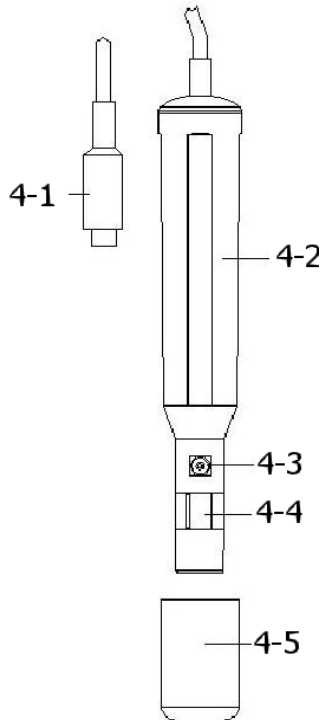

Fig. 2
- 1) Prepare the Oxygen Probe (standard probe, DOPB-11), install the " Probe Plug " (4-1, Fig. 2) into the " DO Socket " (3-13, Fig. 1).
- 1) Install the " Probe Plug " (4-1, Fig. 2) into the " DO Socket " (3-13, Fig. 1).
- 5) **When not use the probe, should insert the " Probe head " into the " Probe protection cover " (4-5, Fig. 2)**